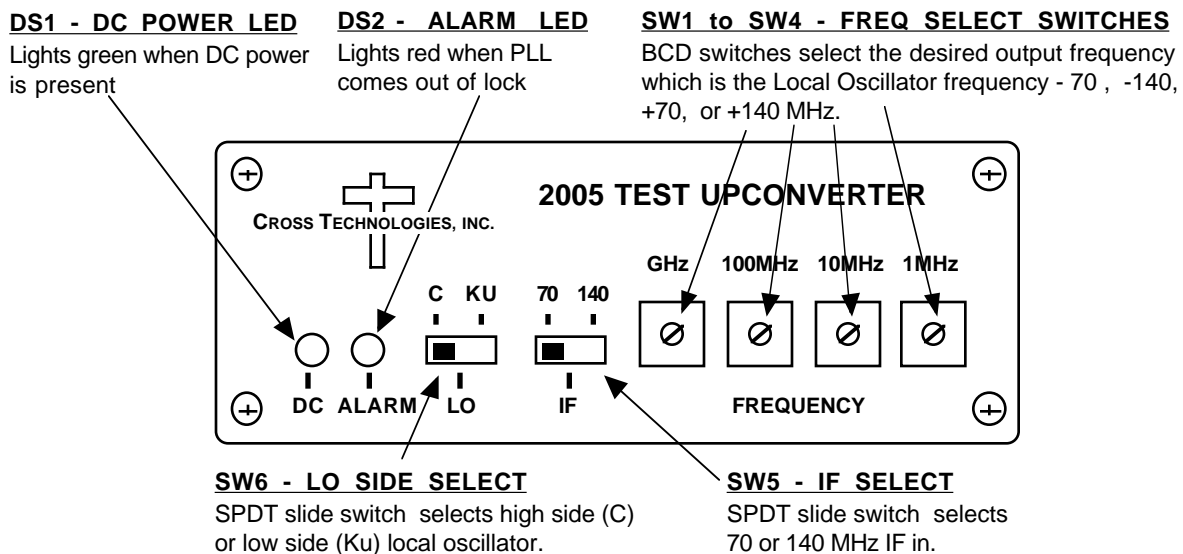
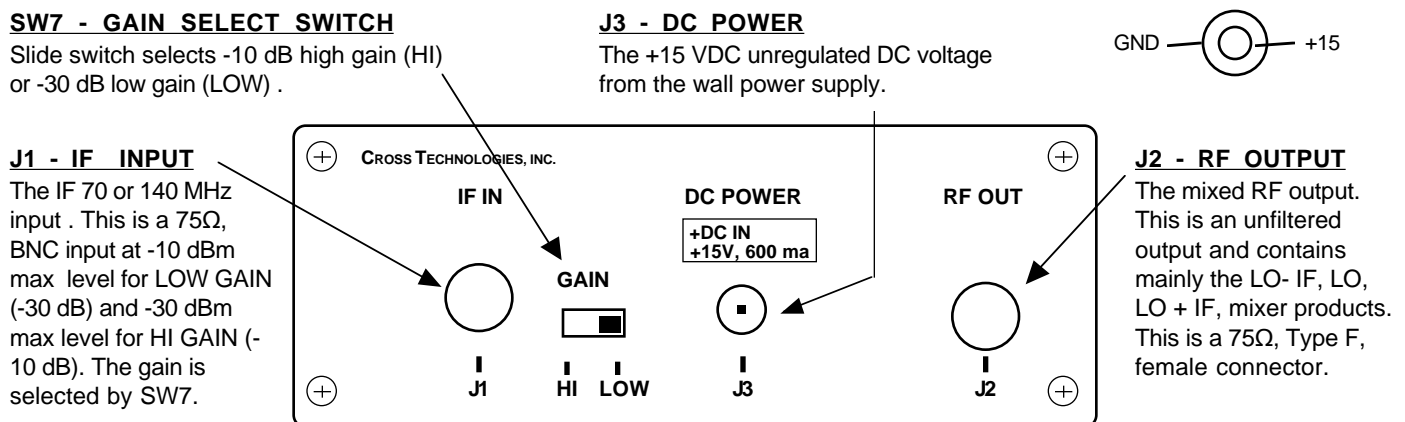

FIGURE 2.1 Front Panel Controls and Indicators
FIGURE 2.2 Rear Panel Inputs, Outputs, and Controls
Figure 2.1 shows the controls and indicators located on the front panel.
Figure 2.2 shows the inputs, outputs, and controls located on the rear panel of the 2005.
1. Check that SW5, SW6, SW7 are set to the desired positions (Figures 2.1 and 2.2).
2. If using the receiver LNB voltage to power the 2005, be sure +14 to +20 VDC is present on the RF OUT center conductor (Figure 2.2).
3. If using the wall power supply, connect one end to the 2005 and the other end to 100-240 \pm 10% VAC, 47-63 Hz (Figure 2.2)
4. Connect a -10dBm, max (LOW GAIN), or -30dBm, max (HI GAIN) signal to IF IN, J1 (Figure 2.2)
5. Connect the RF OUT, J2, to the receiver under test (Figure 2.2).
6. Set BCD switches SW1 to SW4 to the desired L-band frequency (Figure 2.1).
7. Be sure DS1 (green, DC Power) is on and DS2 (red, ALARM) is off (Figure 2.1).
The frequency is selected by setting the BCD switches (SW1 to SW4) on the front panel to the desired frequency using a small blade screwdriver. The frequency displayed on the BCD switches is the desired output frequency with 70 or 140 MHz IF center frequency input and the low or high side LO as selected by SW5 and SW6 (see Figure 2.2). There is no muting of the output carrier during frequency selection. If the switches are set to an invalid frequency, alarm LED DS2 will light.
To select high- or low-side LO and 70 or 140 MHz IF Input set SW5 and SW6 on the front panel (see Figure 2.1) to the desired position. The gain of the 2005 can be selected for -10 dB (HI gain, -30 dBm maximum IF input) or -30 dB (LOW gain, -10 dBm maximum IF input) with SW7 on the rear panel (see Figure 2.2).